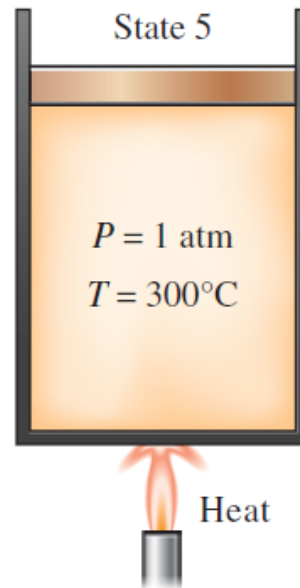

Fig. 3.7: As more heat is transferred, the temperature of the vapor starts to rise (*superheated vapor*).
- Once the phase-change process is completed, we are back to a single-phase region again (this time vapor), and further transfer of heat will result in an increase in both the temperature and the specific volume (Fig. 3.7).